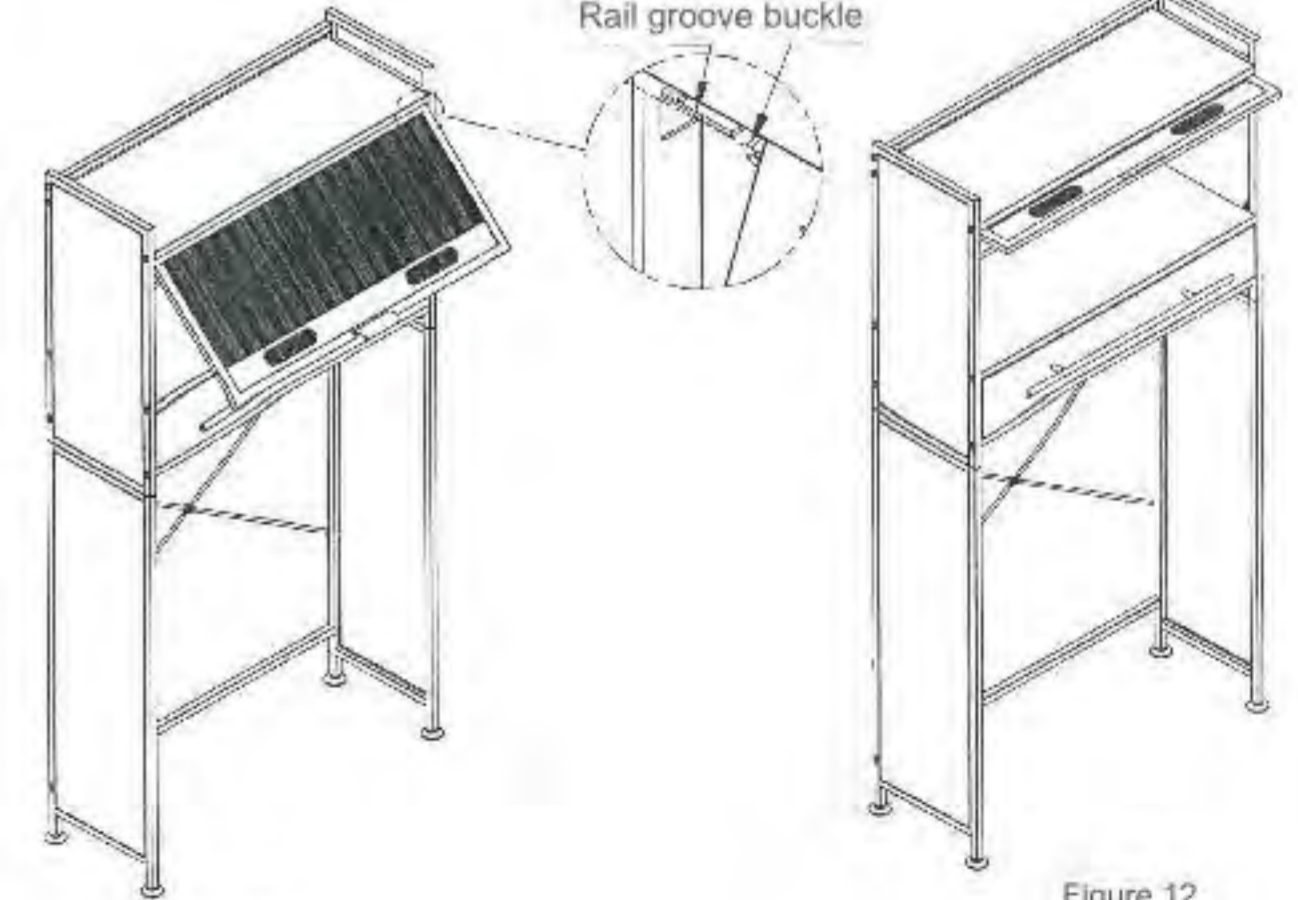
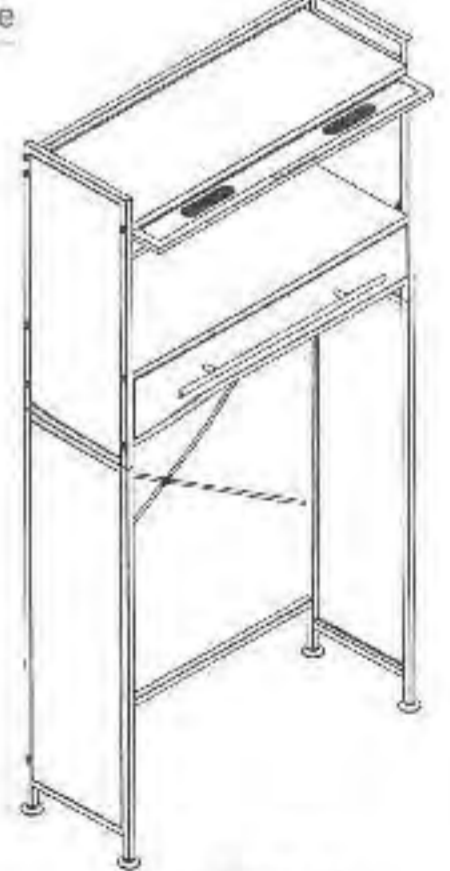

Figure 11
Figure 12
7. Press the buckles on both sides to snap the door frame into the guide rail groove of the left and right upper and lower side frames as shown in Figure 11. The hidden door frame is shown in Figure 12.